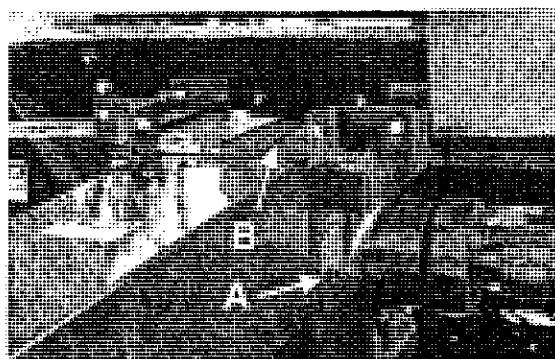

Figure 60. Main Gear Box Oil Level
**L. - Change Gear Box Oil -** Oil in the gear boxes must be replaced every 500 hours or each season. Refill to the level plug with SAE EP 90 gear grease. Refer to Figures 60 and 61 on the previous page.